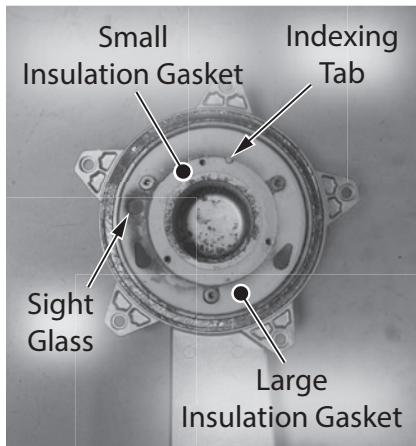

Figure 122 - Burner insulation gaskets
**22** Locate the small and large insulation gaskets on the burner door as shown in Figure 122. Use a plastic scraper to gently scrape insulation clean from burner door. Confirm burner door surfaces are free of any debris or leftover insulation.
**23** Locate the new, small insulation gasket (100371051) provided in the kit. Install the small insulation gasket first. Flip gasket so the adhesive side is facing the burner door surface. Note the indexing tab on the burner door to properly orient the gasket (Figure 122). Confirm gasket sits evenly and flush with burner door.
**24** Locate the new, large insulation gasket (100371054) provided in the kit. Install the large insulation gasket second. Flip gasket so the adhesive side is facing the burner door surface. Note the location of the sight glass on burner door to properly orient the gasket (Figure 122). Confirm gasket sits evenly and flush with burner door.
**27** Locate the new burner provided in the kit. Install burner to burner door. Use the indexing tab to properly orient burner as shown in Figure 122. Secure with the three (3) screws previously removed in **Step 20**.